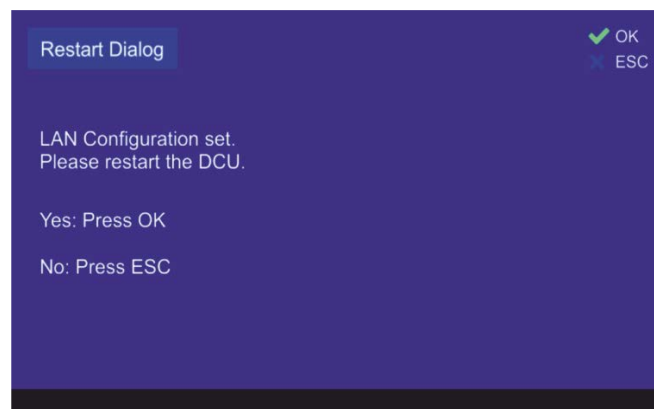

Fig. 150 Restart dialog
- After confirming the changed settings on the top level of the dialog, a dialog for restart the system is opened (s. Fig. 150).